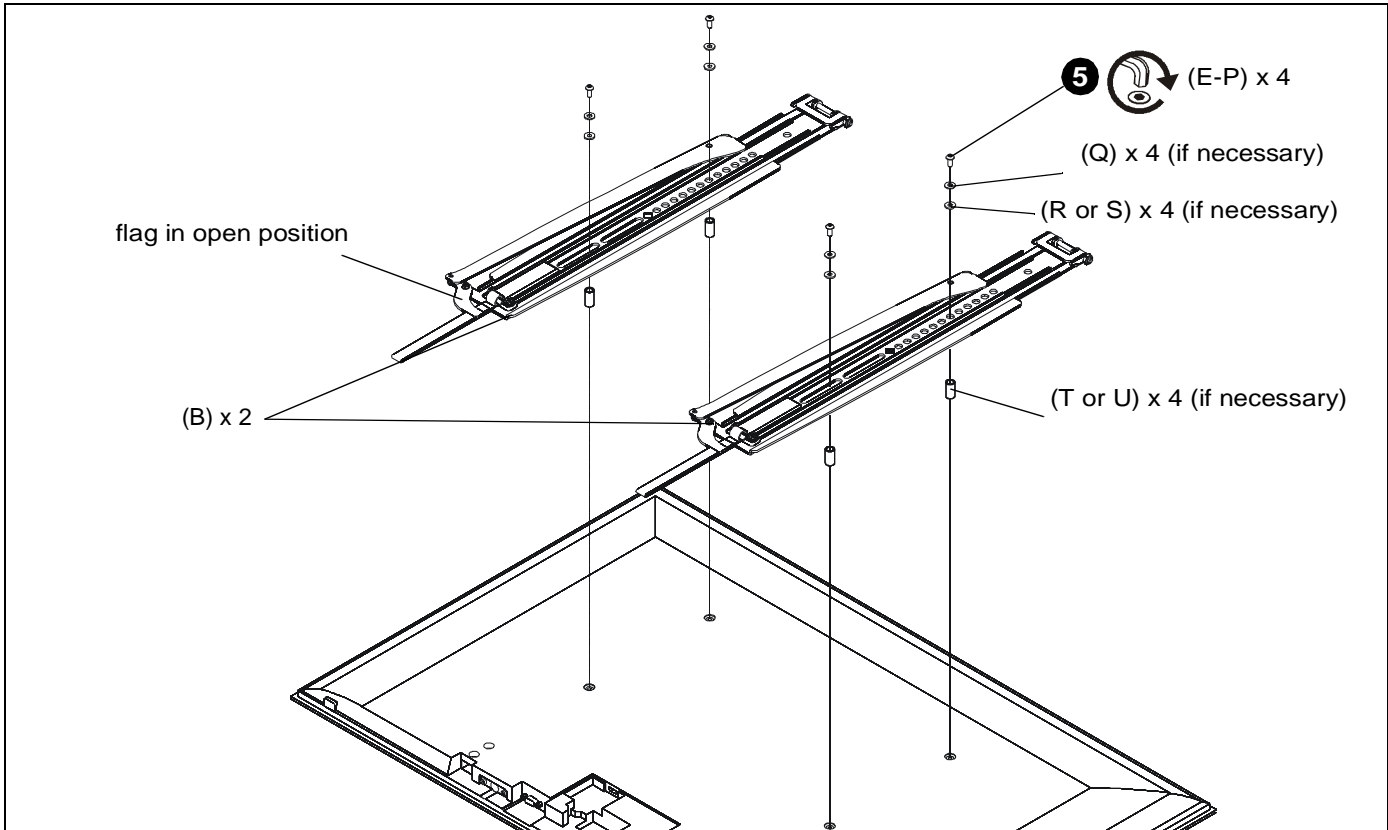

Figure 4
5. Install four button head cap screws (E-P) through required washers (Q) and spacers (R-U), interface brackets (B) into holes on back of display. (See Figure 4)
NOTE: Make sure locking flags are in the open position before attaching display to wall plate. Flags are shown in the open position in Figure 4.